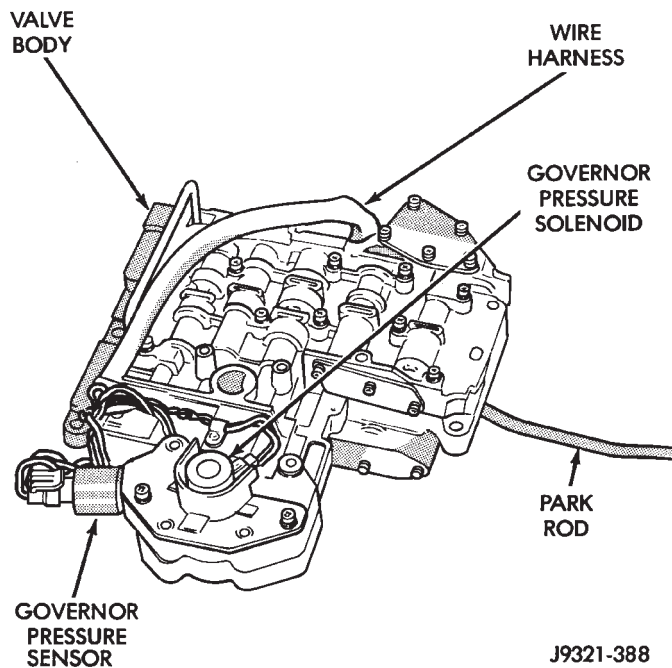

Fig. 27 Valve Body
(11) Lower valve body, rotate valve body away from case, pull park rod out of sprag, and remove valve body (Fig. 27).